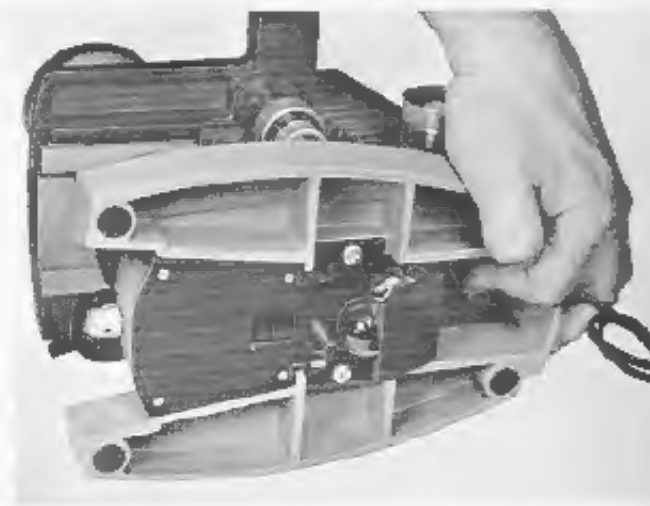

Figure 26. Changing Lamp in "In-Base" Illuminator
- b. Changing Lamp (See figure 26). The lamp is easily replaced by tilting the microscope over on its side, swinging the lamp socket out on its pivot as illustrated. The lamp is of the pre-focus type and is removed by pushing down and turning slightly counterclockwise to disengage the slots from the pins. A special tool, AO #1036-856, consisting of a fiber tube with a